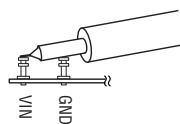
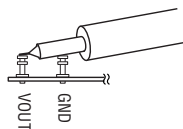

Figure 3. Proper Ripple Measurement Technique for Input
Figure 4. Proper Ripple Measurement Technique for Output
To observe the voltage ripple at VIN or VOUT refer to Figure 3 and Figure 4 for proper equipment setup and follow the procedure outlined below.
- b. Measure the input ripple by touching the probe between VIN and GND as shown in Figure 3.
- c. Measure the output ripple by touching the probe between VOUT and GND as shown in Figure 4.